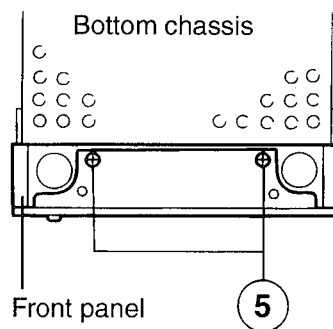

Fig. 5
■ Removing the Front Panel (See Figs. 5 ~ 9)
1. From the bottom side of the body, remove the two screws ⑤ retaining the front panel. (See Fig. 5)